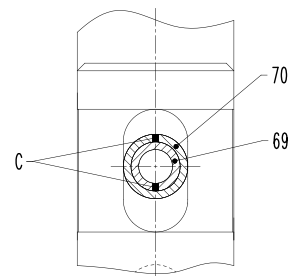

Figure 7-6
8. Put inner dowel pin (69) into outer dowel pin (70); see «Figure 7-6», so that the slits (C) of them are opposite to each other. Press them as one piece through the hole of the hexagon head (B) and the slot in the spindle (64).